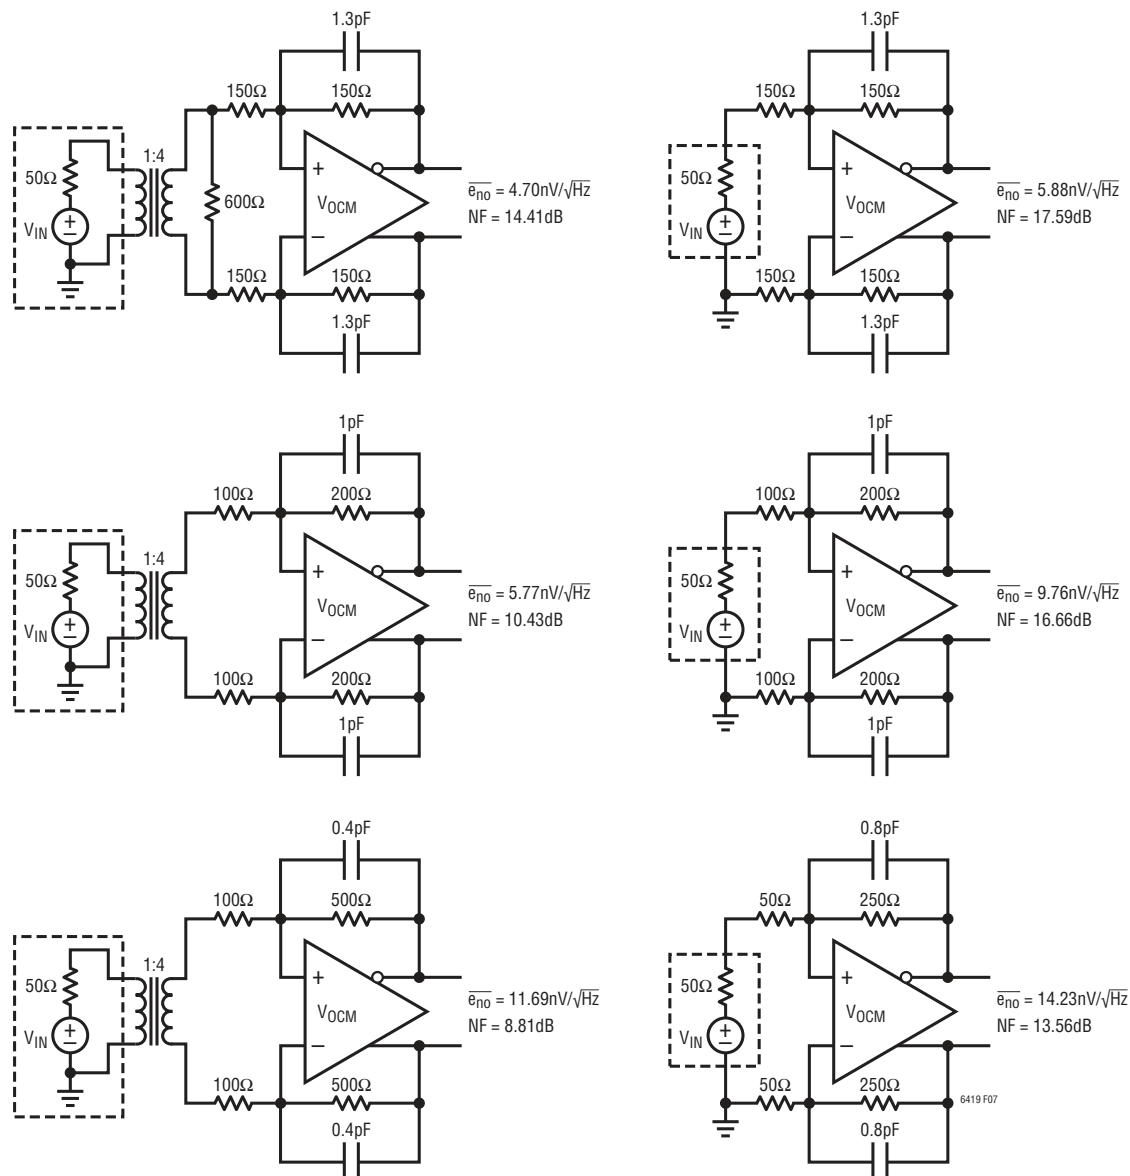

Figure 7. LTC6419 Measured Output Noise and Noise Figure at Different Closed Loop Gains with and without Source Impedance Matching
Figure 7 specifies the measured total output noise ( $e_{no}$ ), excluding the noise contribution of source resistance, and noise figure (NF) of LTC6419 configured at closed loop gains ( $A_V = R_F/R_I$ ) of 1V/V, 2V/V and 5V/V. The circuits in the left column use termination resistors and transformers to match to the 50Ω source resistance, while the circuits in the right column do not have such matching. For simplicity, DC-blocking and bypass capacitors have not been shown in the circuits, as they do not affect the noise results.